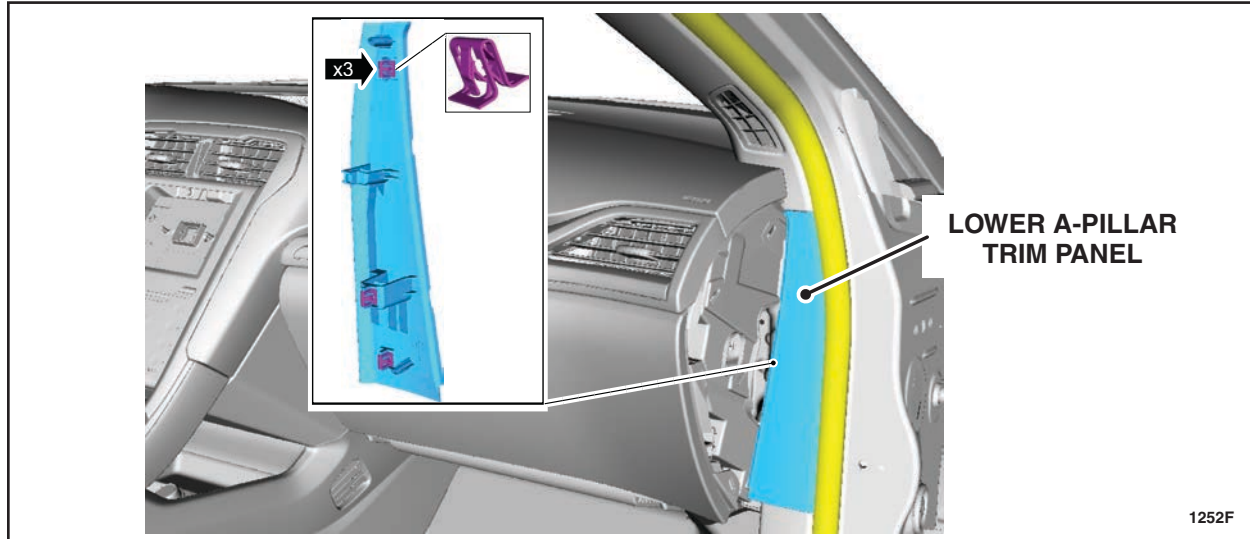

FIGURE 5
5. Remove the RH and LH lower A-pillar trim panels. See Figure 5.